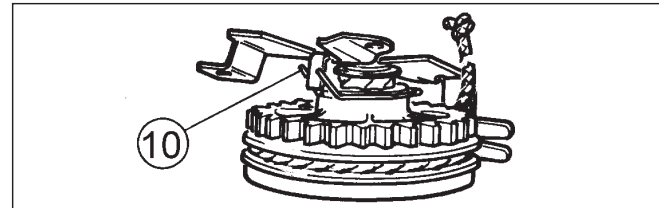

Fig. 15
- Fit new brake spring (10) in its seat (Fig 15) being careful to fit the side extension of the spring on its seat.